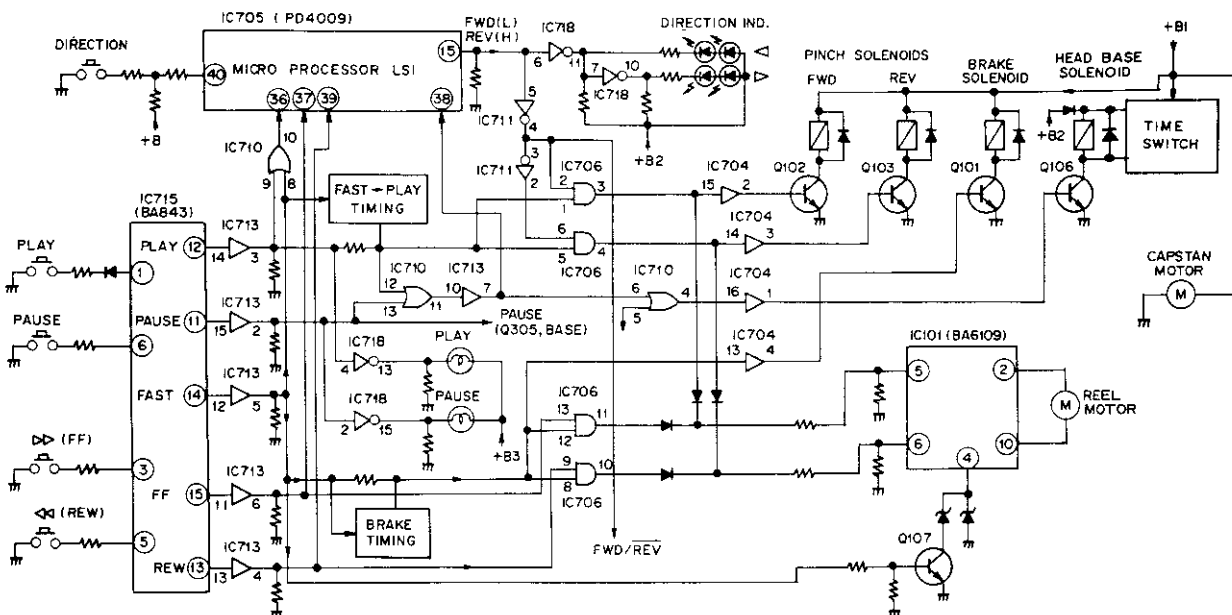

Fig. 7-8 Tape operation control
When the PLAY switch shown in Fig. 7-8 is turned on, pin 12 of IC715 (BA843) is switched to high level (H level). This output is then applied to the inverter (IC718/4-13) via a buffer (IC713/14-3), resulting in the IC718/4-13 output being switched to low level (L level) and the PLAY indicator lamp lighting up. The pin 12 output is also passed via the buffer (IC713/14-3), OR gate (IC710/12-13-11), buffer (IC713/10-7), OR gate (IC710/6-5-4) and buffer (IC704/16-1) to the base of Q106, resulting in Q106 being turned on to activate the head base solenoid.
When the ►► (FF) switch shown in Fig. 7-8 is turned on, pin 15 of IC715 (BA843) is switched to H level. This output is then applied to an AND gate (IC706/13-12-11) via a buffer (IC713/11-6). If, on the other hand, the ◀◀ (REW) switch is turned on, pin 13 is switched to H level instead, and the pin 13 output is applied to another AND gate (IC706/9-8-10) via a different buffer (IC713/13-4). The pin 13 and pin 15 OR output is applied to pin 14, resulting in the pin 14 output being passed to a timing adjustment circuit via a buffer (IC713/12-5), and Q101 subsequently being turned on at a suitable time via buffer IC713/13-4. The brake release solenoid is then activated, thereby releasing the reel brake. The AND gates IC706/13-12-11 and 9-8-10 are used to match the brake release solenoid activation with the reel motor operation timing, the AND gate output being applied to the reel motor control IC (BA6109) to determine the direction of reel motor rotation.